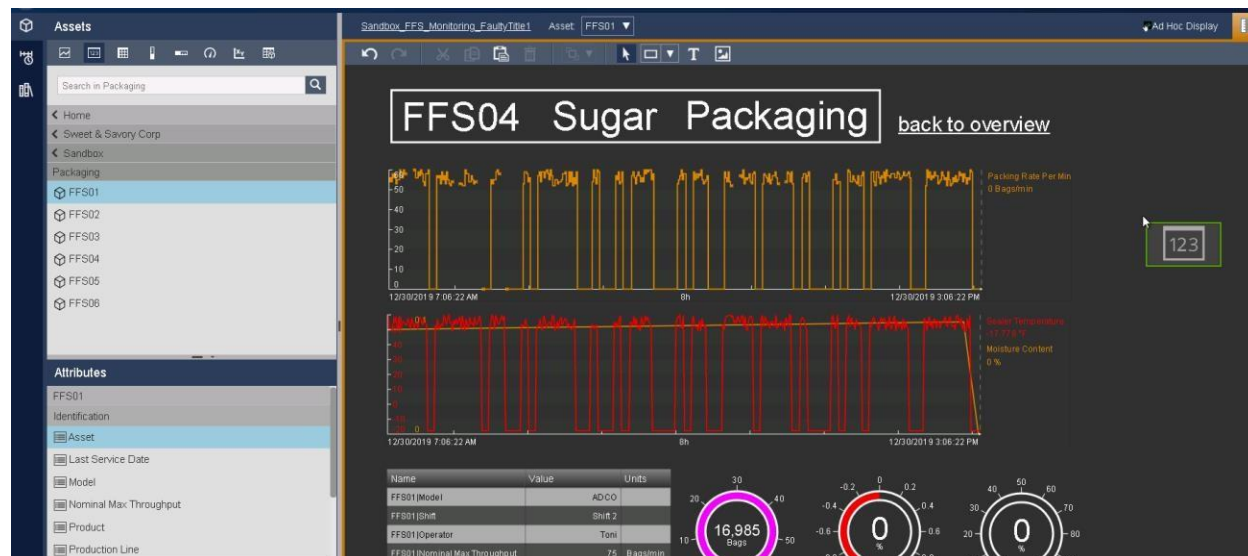

Figure 16. Creating a dynamic title in PI Vision
Step 4. From the symbol pane, select the Value symbol in the top-left corner , then drag and drop the attribute **Asset** on the display (you should see this symbol  as in Figure 16).